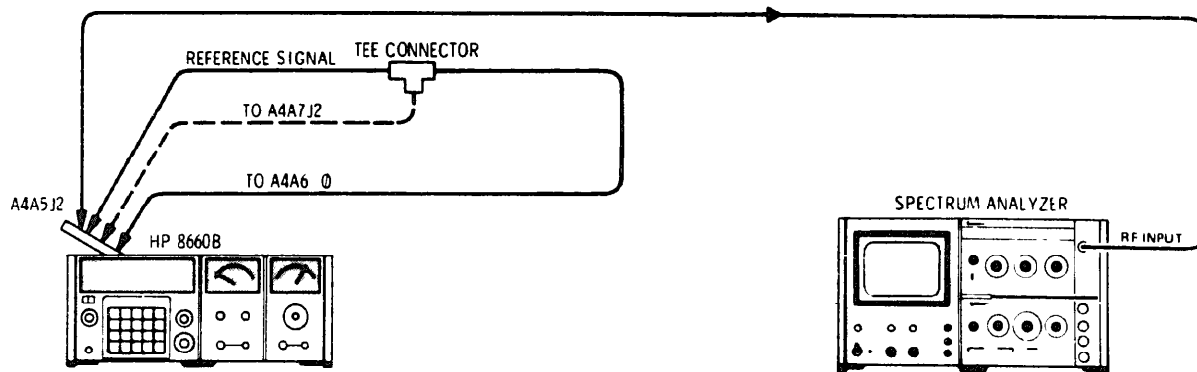

Figure 5-10. 10 MHz Trap Adjustment Test Setup
5. 10 MHz Trap Adjustment (see Figure 5-10).